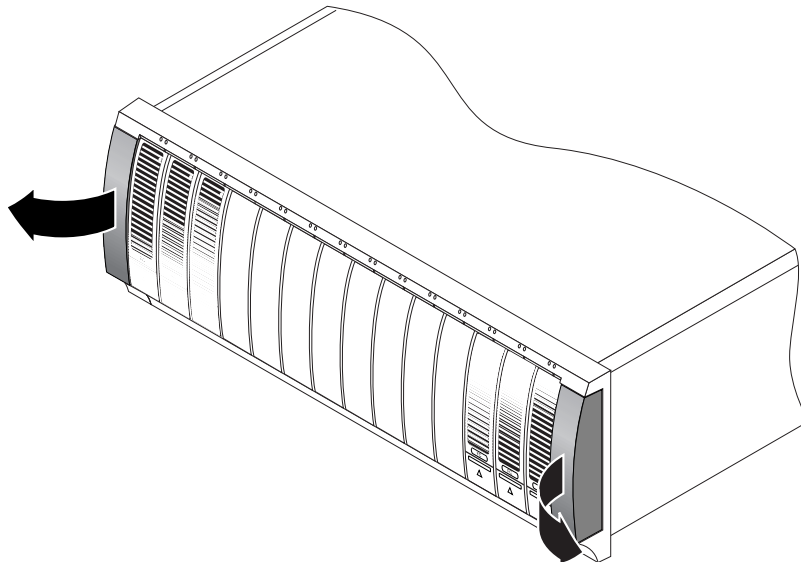

FIGURE 2-26 Removing the End Caps on the Tray
1. Unsnap and remove the left and right end caps on the tray to permit access to the screw mounting holes (FIGURE 2-26).